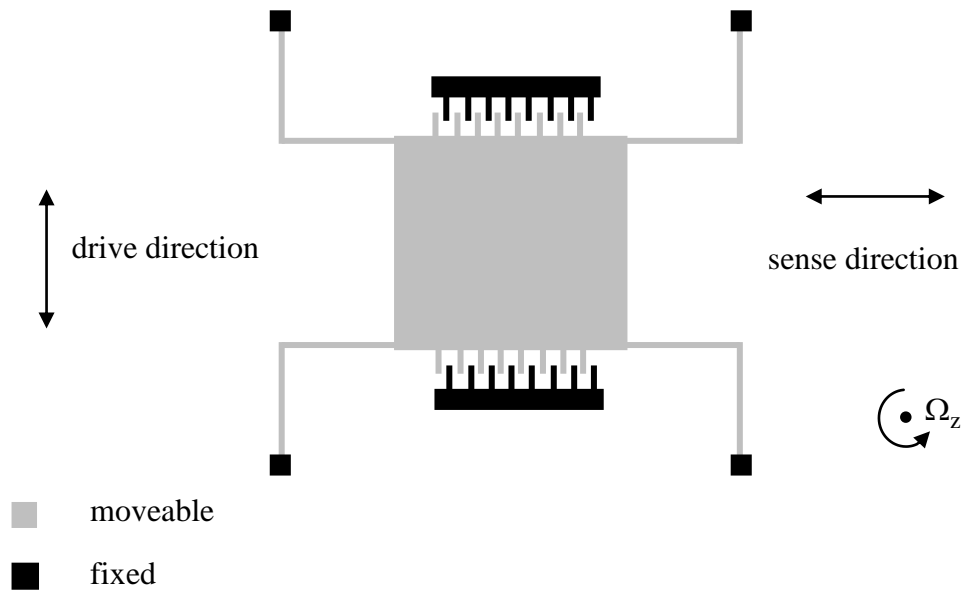

Fig. 4
4 A z -axis silicon micromachined vibrating rate gyroscope is shown in Fig. 4. The device consists of a $10\text{ }\mu\text{m}$ thick suspended mass in the form of a square plate of side dimension 1 mm . The mass is designed to be compliant along the two in-plane directions with a drive mode natural frequency of 10 kHz and a sense mode natural frequency of 11 kHz . The proof mass is driven in the drive mode using a comb drive configuration with electrode spacing of $1\text{ }\mu\text{m}$ and an initial electrode overlap length of $10\text{ }\mu\text{m}$. The gap between the suspended mass and the fixed substrate is $2\text{ }\mu\text{m}$. The device is packaged in an inert ambient at 1 atm and operated at room temperature, $T = 300\text{ K}$. The dynamic viscosity of the fluid surrounding the mechanical structure is $\eta = 1.8 \times 10^{-5}\text{ kg m}^{-1}\text{ s}^{-1}$. The dissipation in the drive mode is dominated by viscous drag. The reduced Navier-Stokes equation to model viscous drag due to Couette flow is given by
- (d) Estimate the response of the mass in the sense mode for an applied rotation rate $\Omega_z = 1\text{ rad s}^{-1}$ about the sensitive axis assuming that the Quality factor for the drive mode and sense mode are identical. Comment on the validity of this assumption with reference to the device layout provided in Fig. 4. [20%]